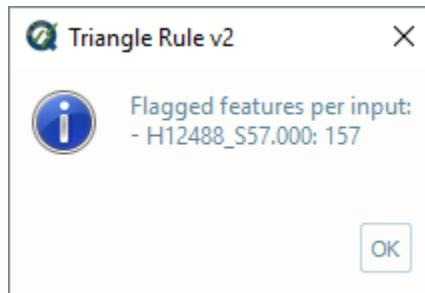

Fig. 2.68: Triangle rule's output message.
- After executing, the output window opens automatically, and the results are shown by textbox (Fig. 2.68).